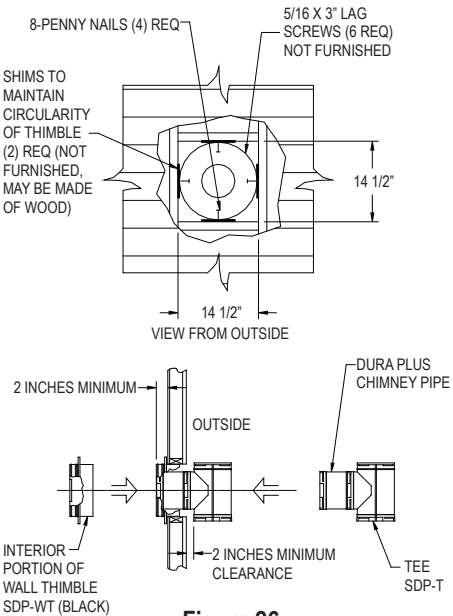

Figure 26
3. Install Wall Thimble: Insert the black section of the Wall Thimble into the opening in the wall from inside the room, and align the nail holes with the studs. **(Figure 26)**. Do not nail the black thimble section at this time. Attach the Tee to a 9-inch or 12-inch Chimney Section by twisting until it is firmly locked. If the wall is less than 6 inches thick, use a 9-inch Chimney Section; if the wall is between 6 and 9 inches thick, use a 12-inch Chimney Section. From outside the building, insert the Chimney Section into the hole until the vertical part of the Tee is 2 inches away from the outside of the wall, and the black portion of the Wall Thimble and the Chimney Section protrude into the room at least 2 inches. **IMPORTANT: In order to make a safe connection, the female end of the Chimney Section must fully contact the inside face of the Wall Thimble.** Remove the